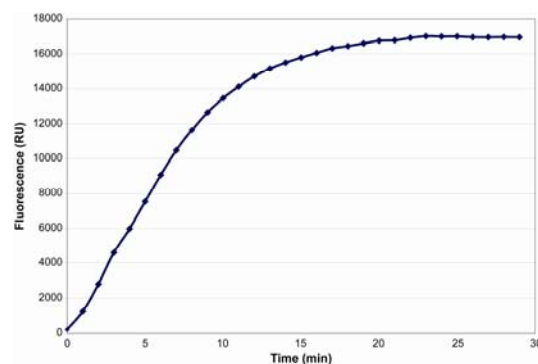

Figure 3: Human lysine specific histone Methyltransferase SET7/9 assayed with 20µM TAF-10 as the acceptor substrate.
- Obtain the slope (rate) of the linear portion of the curve. See figure 3 for an example using humane lysine specific histone Methyltransferase, SET7/9).